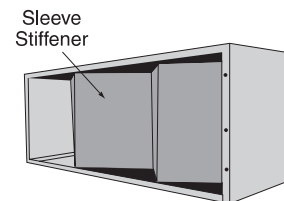
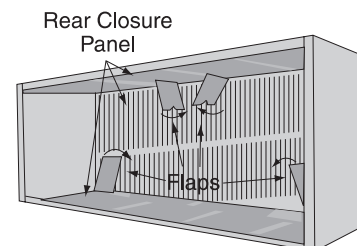

Figure 11. Wall sleeve stiffener
Figure 12. Sleeve rear closure panel
1. Remove the zigzag folded cardboard sleeve stiffener. See Figure 11. Remove the rear closure panel by folding the four flaps as indicated in Figure 12